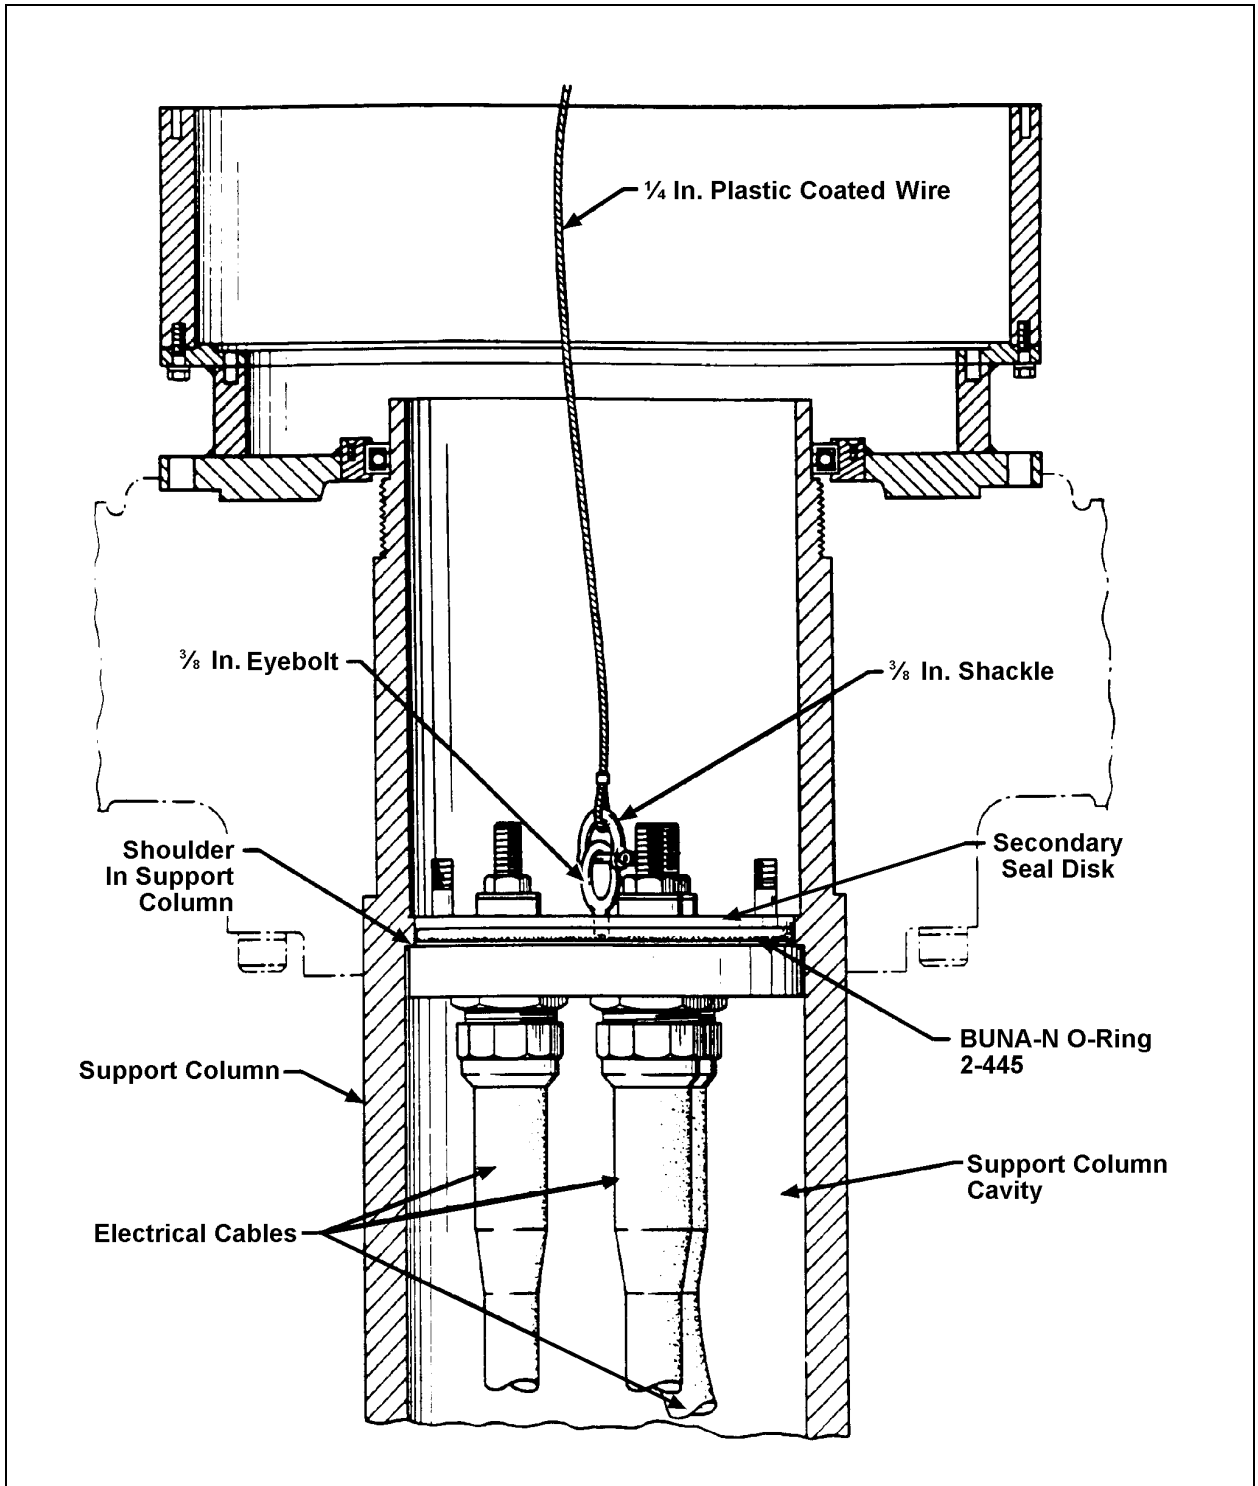

Figure 4-10. Attachment of Boat Winch Wire to Secondary Seal Disk.
winch wire to the eyebolt as shown in Figure 4-10.
**4-2.5.29 (DV)** Vent the top hat cover and confirm with topside that the closure plug seal is still holding. Remove the top hat cover from the bottom of the support column.
**4-2.5.30 (DV)** Attach the 1/4-inch boat winch wire (hanging in the support column) to the eyebolt in the secondary seal disk with the 3/8-inch shackle.
**4-2.5.32 (DV)** Install the top hat cover and gasket on the bottom flange of the support column.
**4-2.5.33 (DV)** Shut the vent valve in the top hat cover.
**4-2.5.38 (TOP)** Use the boat winch to raise the secondary seal disk to its seated position against the shoulder in the support column (see figure 4-10). During the last few inches of the secondary seal disk's travel up the support column shaking the boat winch cable back and forth will help the secondary seal o-